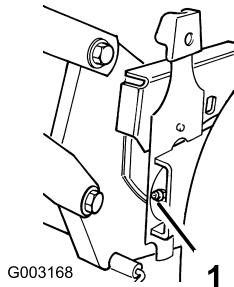

Figure 20
2. Wipe the grease fittings with a clean rag (Figure 20).